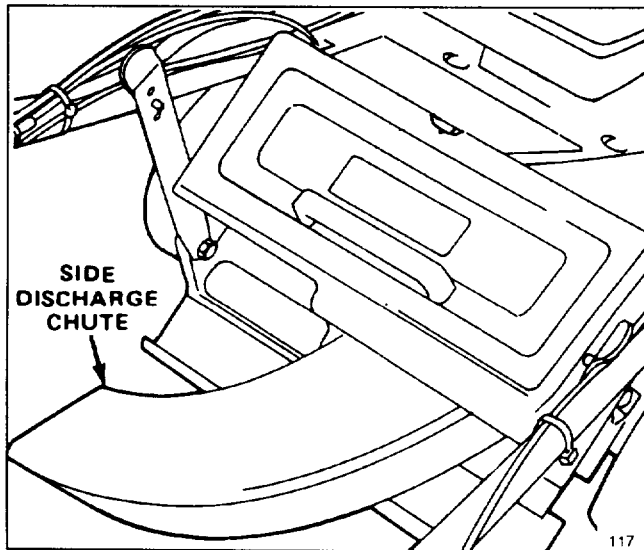

Figure 34
1. Side Discharge Kit, Model No. 59112—Installs in seconds. Rear mounted in place of the grass bag. Disperses clippings while trimming on both sides (Fig. 34).